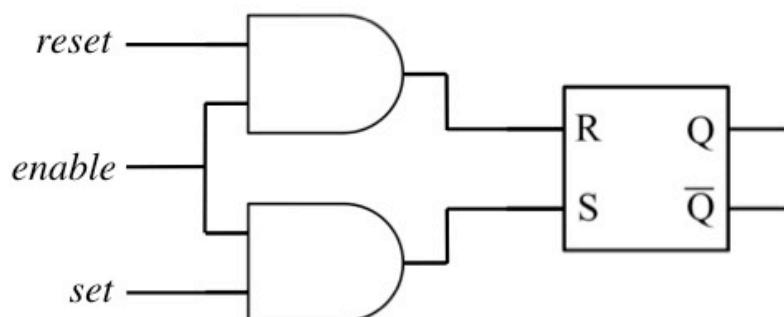

Figure 3.13: Clocked S-R latch circuit
The circuit of figure 3.13 has an additional *enable* input so that the S and R inputs are active **only** when the *enable* is high. When the *enable* is low the state of the flip-flop is “latched” and cannot change until the *enable* goes high again. The addition of the *enable* input changes the R-S flip-flop from an element used in asynchronous systems to one useful in synchronous systems.
8. Construct and test the latch design based on that given in figure 3.13, which has two inputs: an enable input, that only allows the state of the output of the flip-flop to change when it is high, and a data input that sets the output of the flip-flop to '0' if the data input is 0 (and enabled), or sets the output to '1' if the data input is '1' (and enabled). A transition table for the flip-flop is given in figure 3.14.